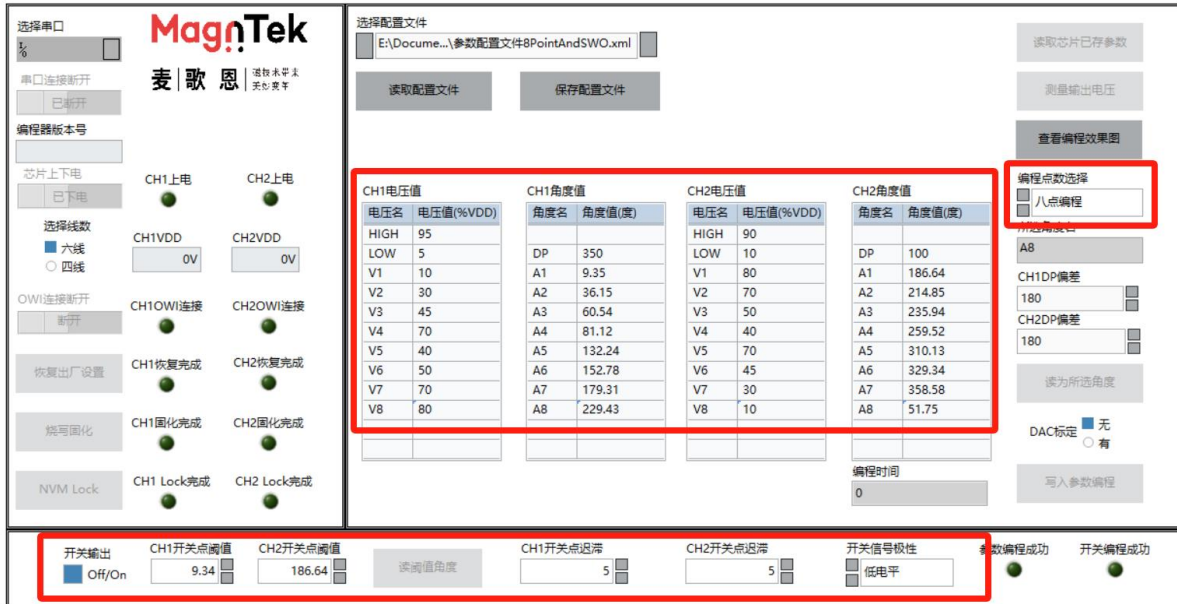

Figure 5.3.10 Select eight point programming and fill in the fixed parameters
- Enter the above parameters in the corresponding parameter field. 'HIGH', 'LOW', 'V1' ~ 'V8', 'DP' and switch point hysteresis are fixed parameters, which remain unchanged during repeated programming after filling in. The "A1" ~ "A8" and "switch point threshold" parameters are manually controlled and are the current actual angle values of the chip (Figure 5.3.10).